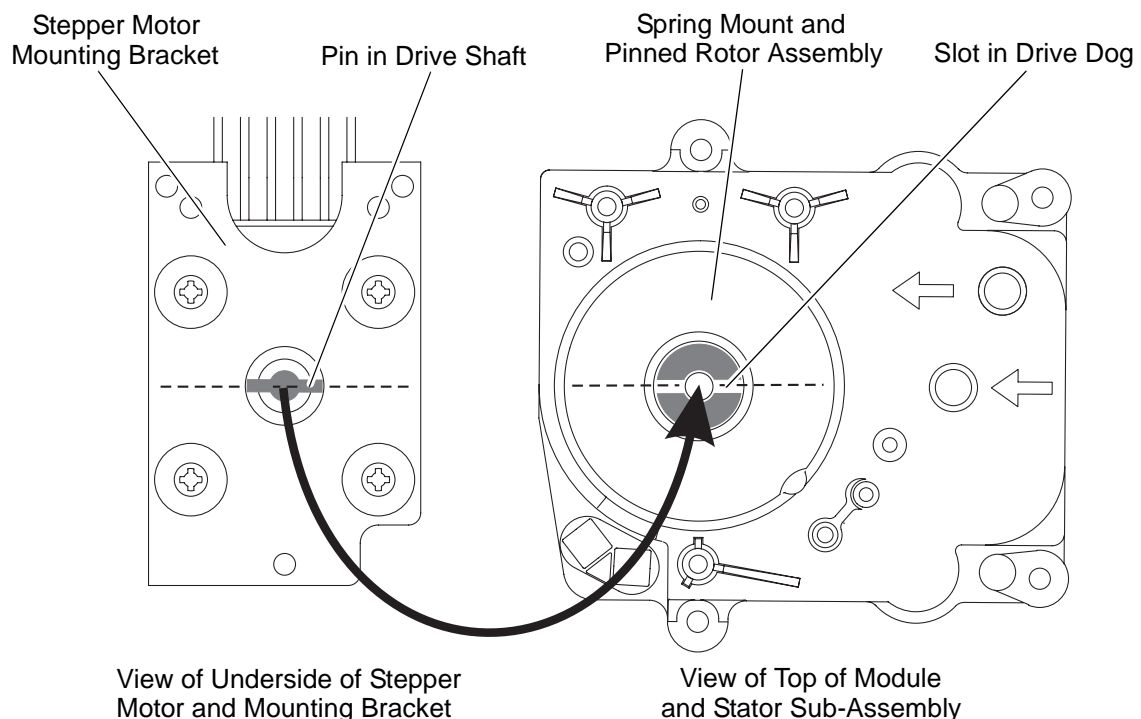

Figure 46 - Aligning the Stepper Motor Drive Shaft and Pinned Rotor Assembly
19.20.3 With the orientation of the module and stator sub-assembly as shown in Figure 46, turn the spring mount and pinned rotor assembly round so that the slot in the drive dog is in the approximate "East-West" position shown.
19.23 With the orientation of the stepper motor mounting bracket as shown in Figure 46, turn the stepper motor drive shaft round so that the pin in the end of the drive shaft is in the approximate "East-West" position shown.